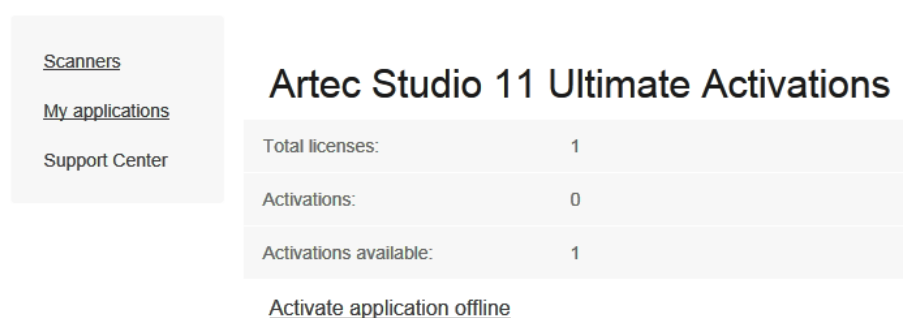

Figure 4.16: Offline activation at *my.artec3d*.
5. Find Artec Studio and click on it. A new page will appear, as Figure 4.16 shows.